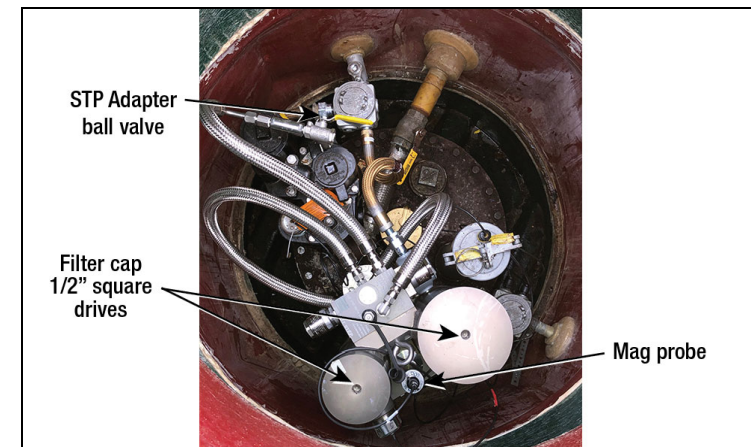

Figure 1.
2. Close STP Adapter ball valve to isolate the Fuel Conditioner unit from the pump (see Figure 1).
18. Re-open the pump STP Adapter ball valve (see Figure 1).